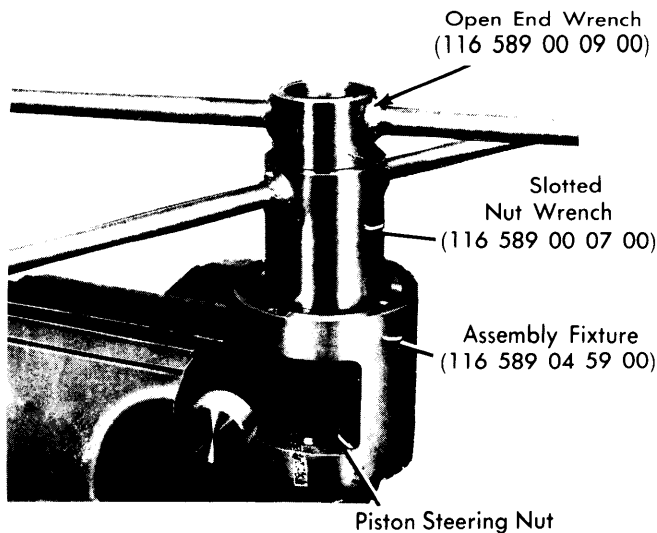

Fig. 7 Removing Worm Gear Nut from Piston/Steering Nut
10) Using suitable clamp and tools (Fig. 7), remove worm gear nut from piston/steering nut. Remove seal ring and "O" ring from worm gear nut. On early models, remove axial disc from worm gear nut